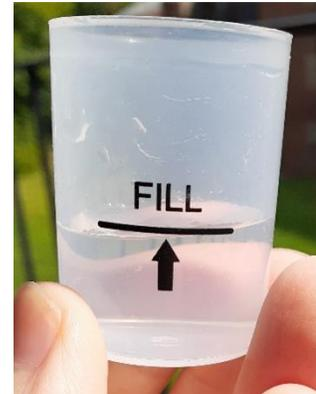

Figure 3: Pocket Pro cap filled to the “fill line”.
6. Fill the cap completely with river water, and empty. Fill again with river water to the fill line (see Figure 3).